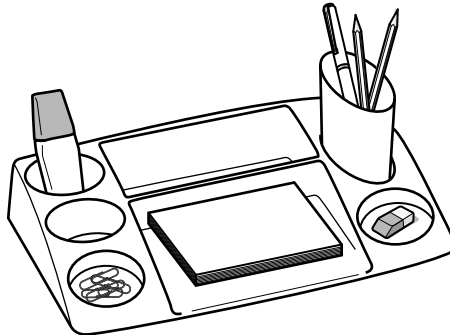

Fig. 2
- 2 Fig. 2 shows a desk tidy made from a plastic.